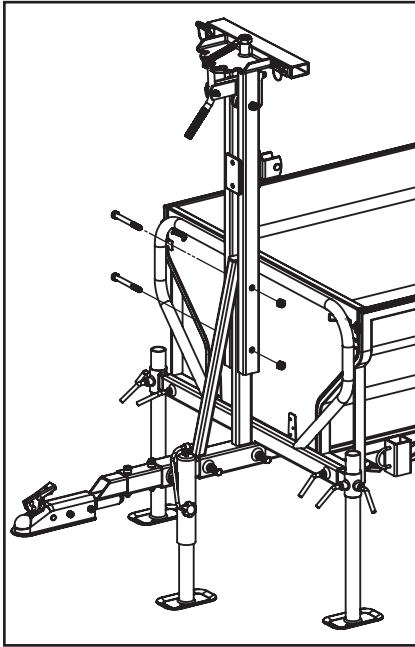

Fig. 20
Step 18: Install the Boom Column. Place the prepared Boom Column (11) from the previous step by placing onto the vertical tubes on the Safety Guard (10) as shown in Fig. 20. Align the mounting holes of the Boom Column and the vertical tubes and secure in place using the two M14x130 bolts and nuts that were removed in the previous step.